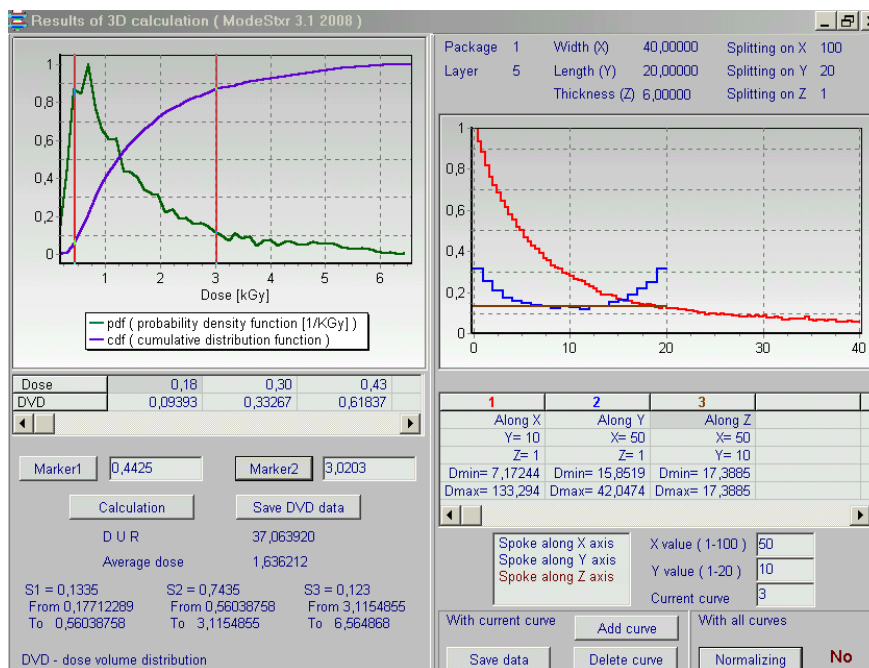

Fig.26. The form of "Results of 3D calculation" for analysis of 3D absorbed dose distribution.
- For example, Chosen direction is “Spoke along axis Z”. (see Fig. 26).
The graph for the first curve for dose distribution will be appeared in the special window (see right upside Fig.26).